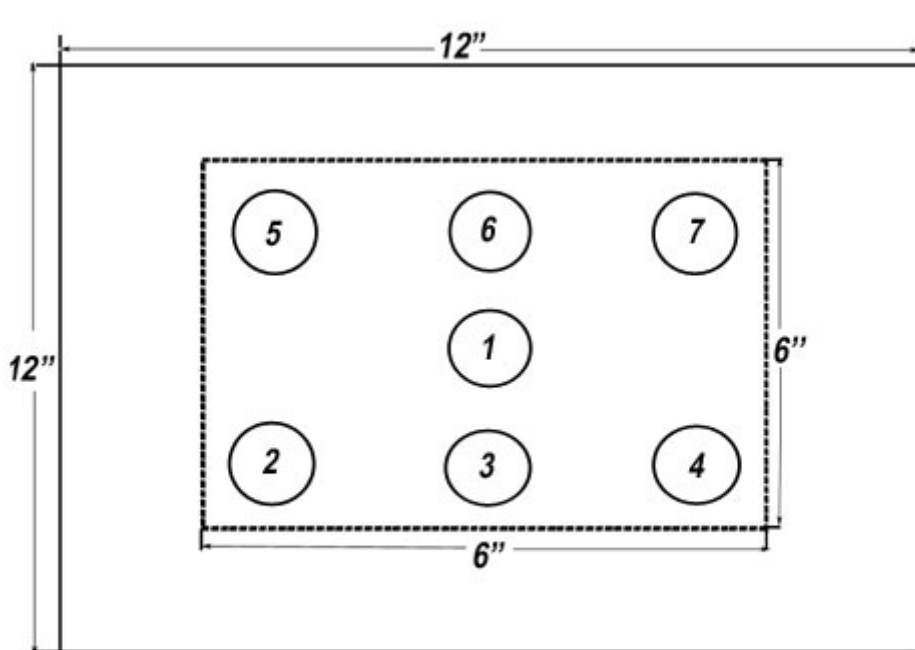

Figure 2
- Repeat step "e" to finish all the positions to be measured, and show all temperature points vs chamber position. (see Fig. 2 )